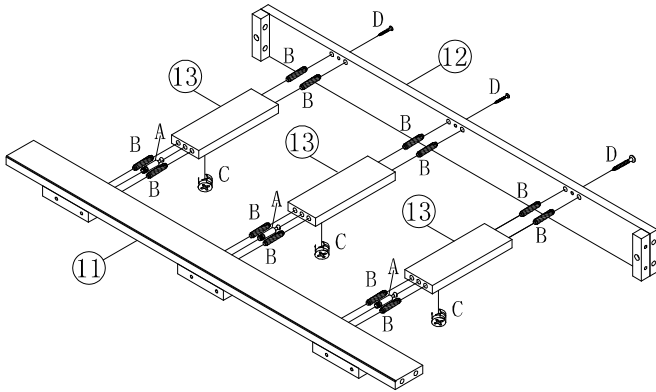

Figure 1
USE GLUE TO FILL 1/4 HOLE OF FRONT/ BACK RAIL & WOOD CONNECTOR (11,12 &13). INSERT 3PCS CAM-BOLT (A), AND 12PCS WOOD DOWEL (B) INTO PREDRILLED HOLES ON FRONT AND BACK RAILS (11&12) , AND FIT INTO CORRESPONDING HOLES ON ENDS OF WOOD CONNECTOR (13). INSERT 3PCS CAM-LOCK (C) INTO BIG HOLES ON UNDERSIDE OF WOOD CONNECTOR (13) WITH SLOT FOR SCREWDRIVER FACING OUTWARD. ROTATE CAM-LOCK (B) CLOCKWISE TO SECURE CAM-BOLT (A). THEN INSERT 3PCS FLAT HEAD LONG SCREW (D) THROUGH PREDRILLED HOLES ON BACK RAIL (12) AND TIGHTEN INTO END OF WOOD CONNECTOR (13). AS FIGURE 1 SHOWN.